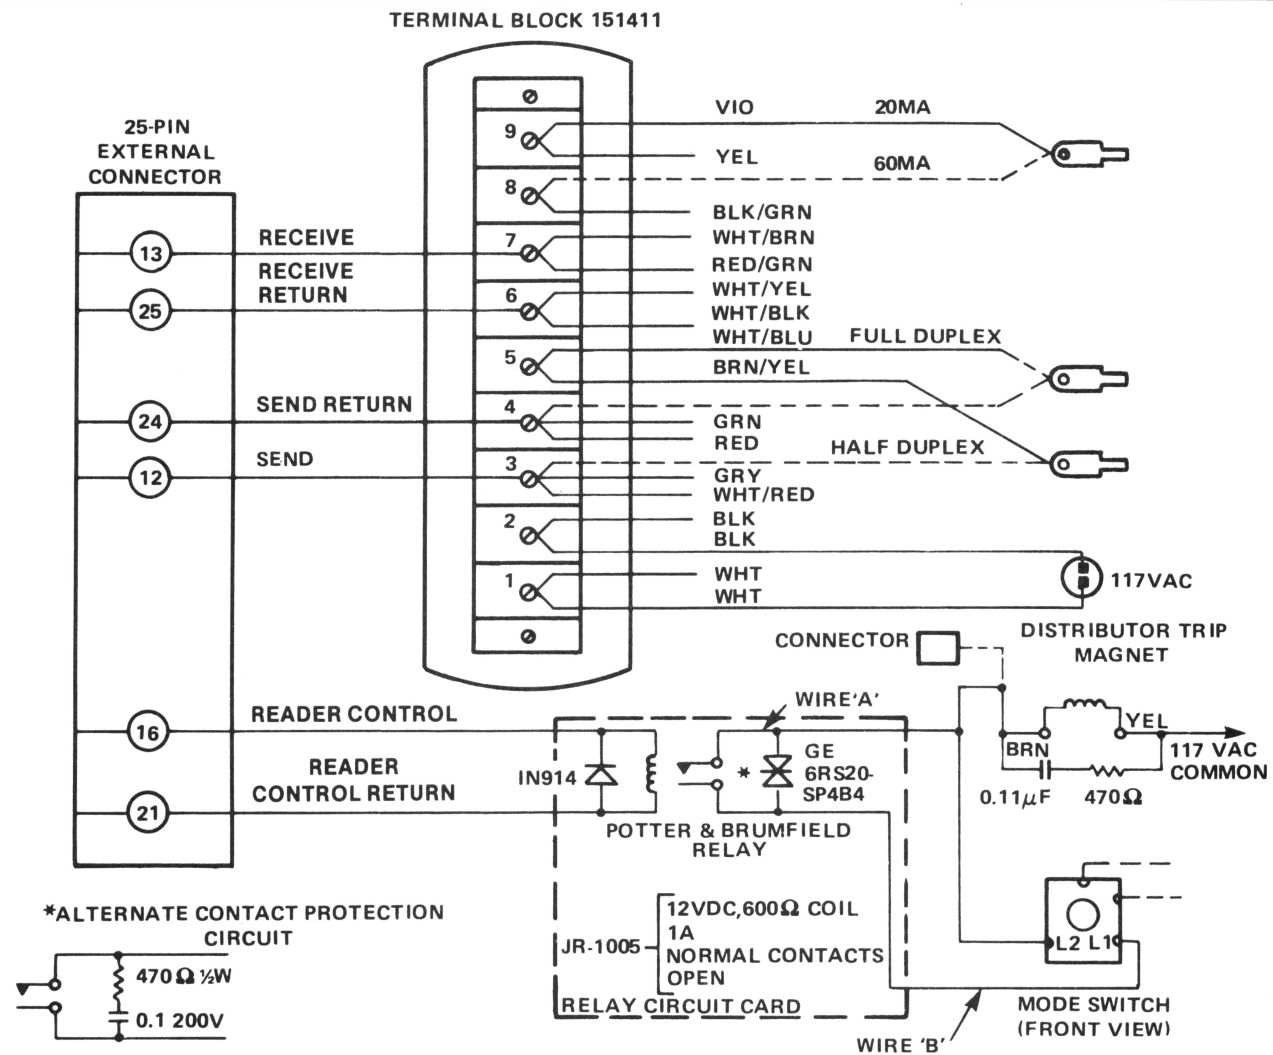
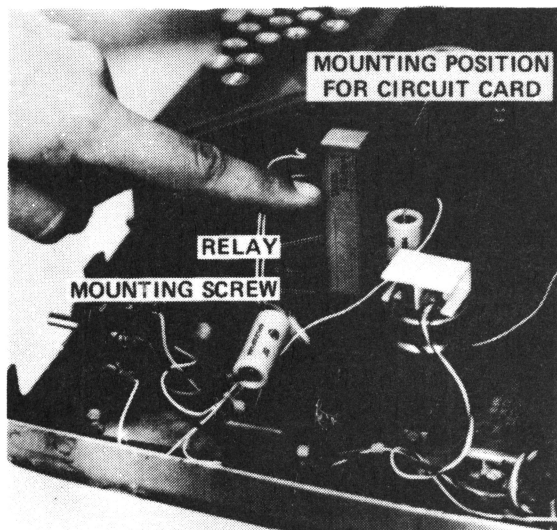
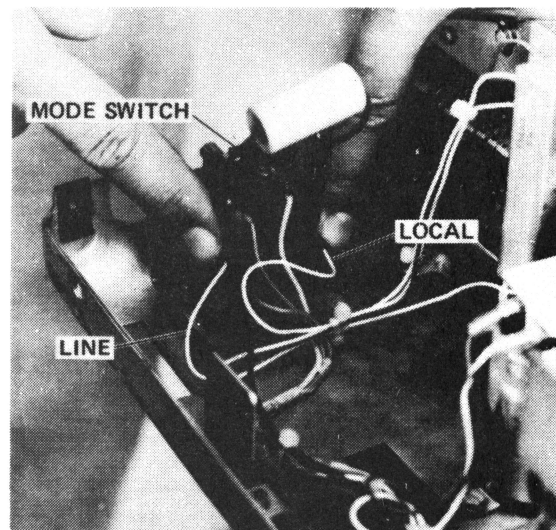

Figure A-4. Teletypewriter Modifications
Figure A-5. Relay Circuit
Figure A-6. Mode Switch
A circuit diagram of the relay circuit card is included in figure A-4; this diagram also includes the part numbers of the relay, diode, and thyrector. (Note that a 470-ohm resistor and a 0.1  $\mu$ F capacitor may be substituted for the thyrector.) After the relay circuit card has been assembled, mount it in position as shown in figure A-5. Secure the card to the base plate using two self-tapping screws. Connect the relay circuit to the distributor trip magnet and mode switch as follows:
- a. Refer to figure A-4 and connect a wire (Wire 'A') from relay circuit card to terminal L2 on mode switch. (See figure A-6.)
- c. Refer to figure A-4 and connect a wire (Wire 'B') from relay circuit board to terminal L1 on mode switch.
Connect a two-wire receive loop, a two-wire send loop, and a two-wire tape reader control loop to the external device as shown in figure A-4. The external connector pin numbers shown in figure A-4 are for interface with an RS232C type, 25-pin connector.